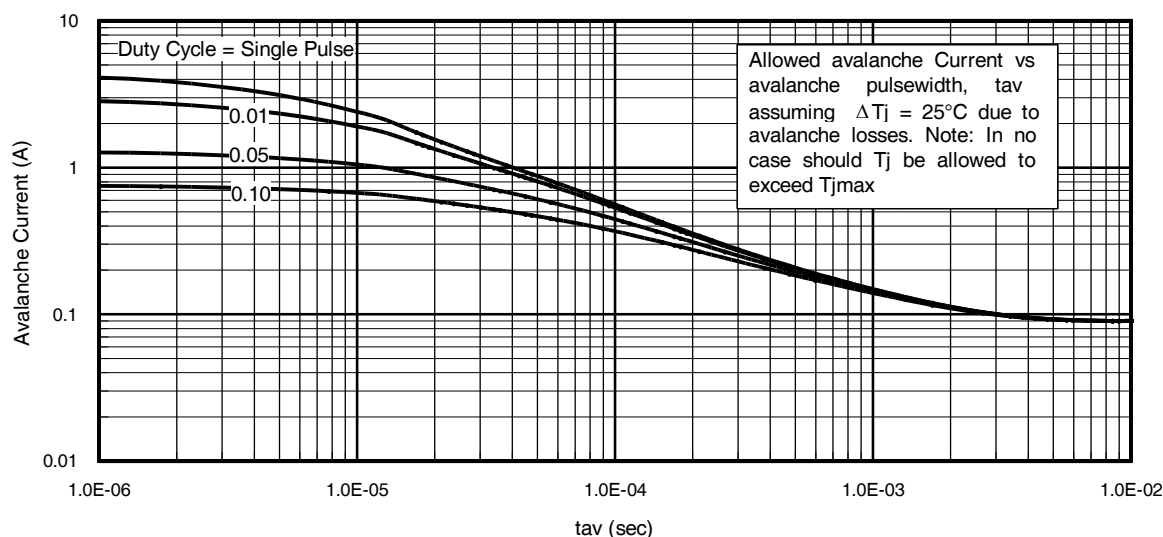

Fig 15. Typical Avalanche Current Vs.Pulsewidth
Notes on Repetitive Avalanche Curves , Figures 15, 16:
7. ΔT = Allowable rise in junction temperature, not to exceed T_{jmax} (assumed as 25°C in Figure 15, 16).